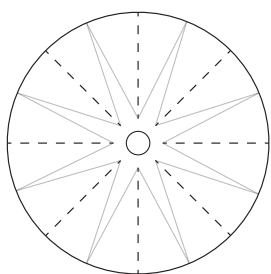

Figure 4.
- Make 4–8 incisions around the circle (represented on Figure 4, with the dotted lines). Then bend the petals with one corner up and one corner down, like a propeller (fold lines are represented with the gray lines on Figure 4).